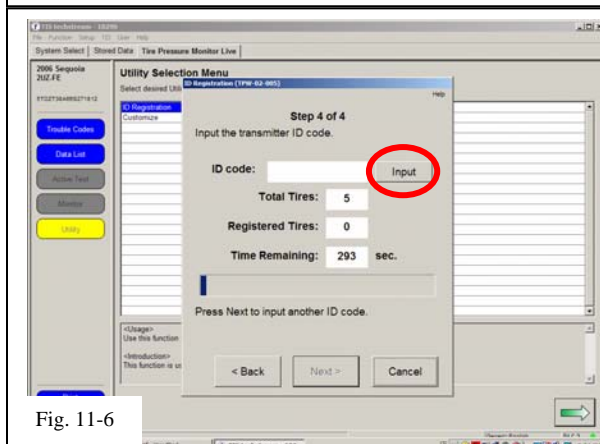

Fig. 11-6
- (i) Select “**Next**” for Steps 1 through 3. Select “**Input**” in Step 4 to begin TPMS ID registration. (Fig. 11-6)